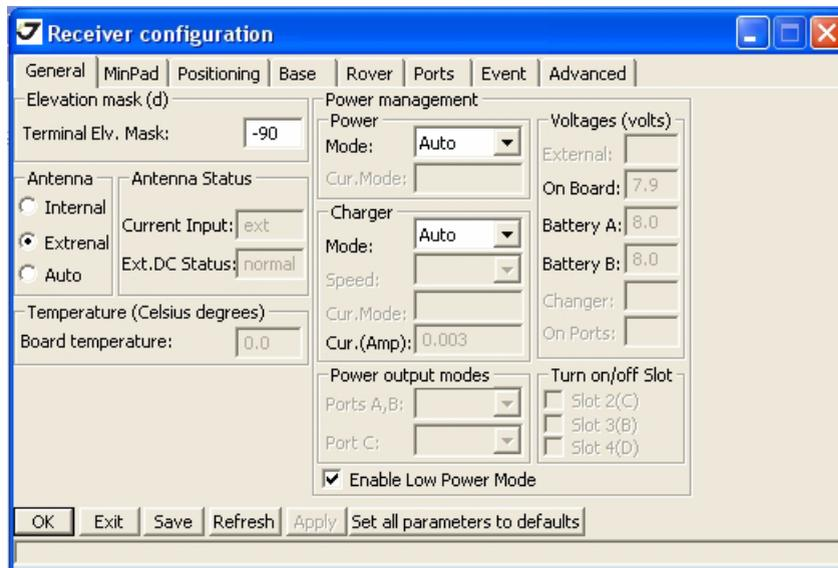

Figure 2-3. General Tab
3. Once connected, click the *Configuration->Receiver*. Open the *General* tab (Figure 2-3).